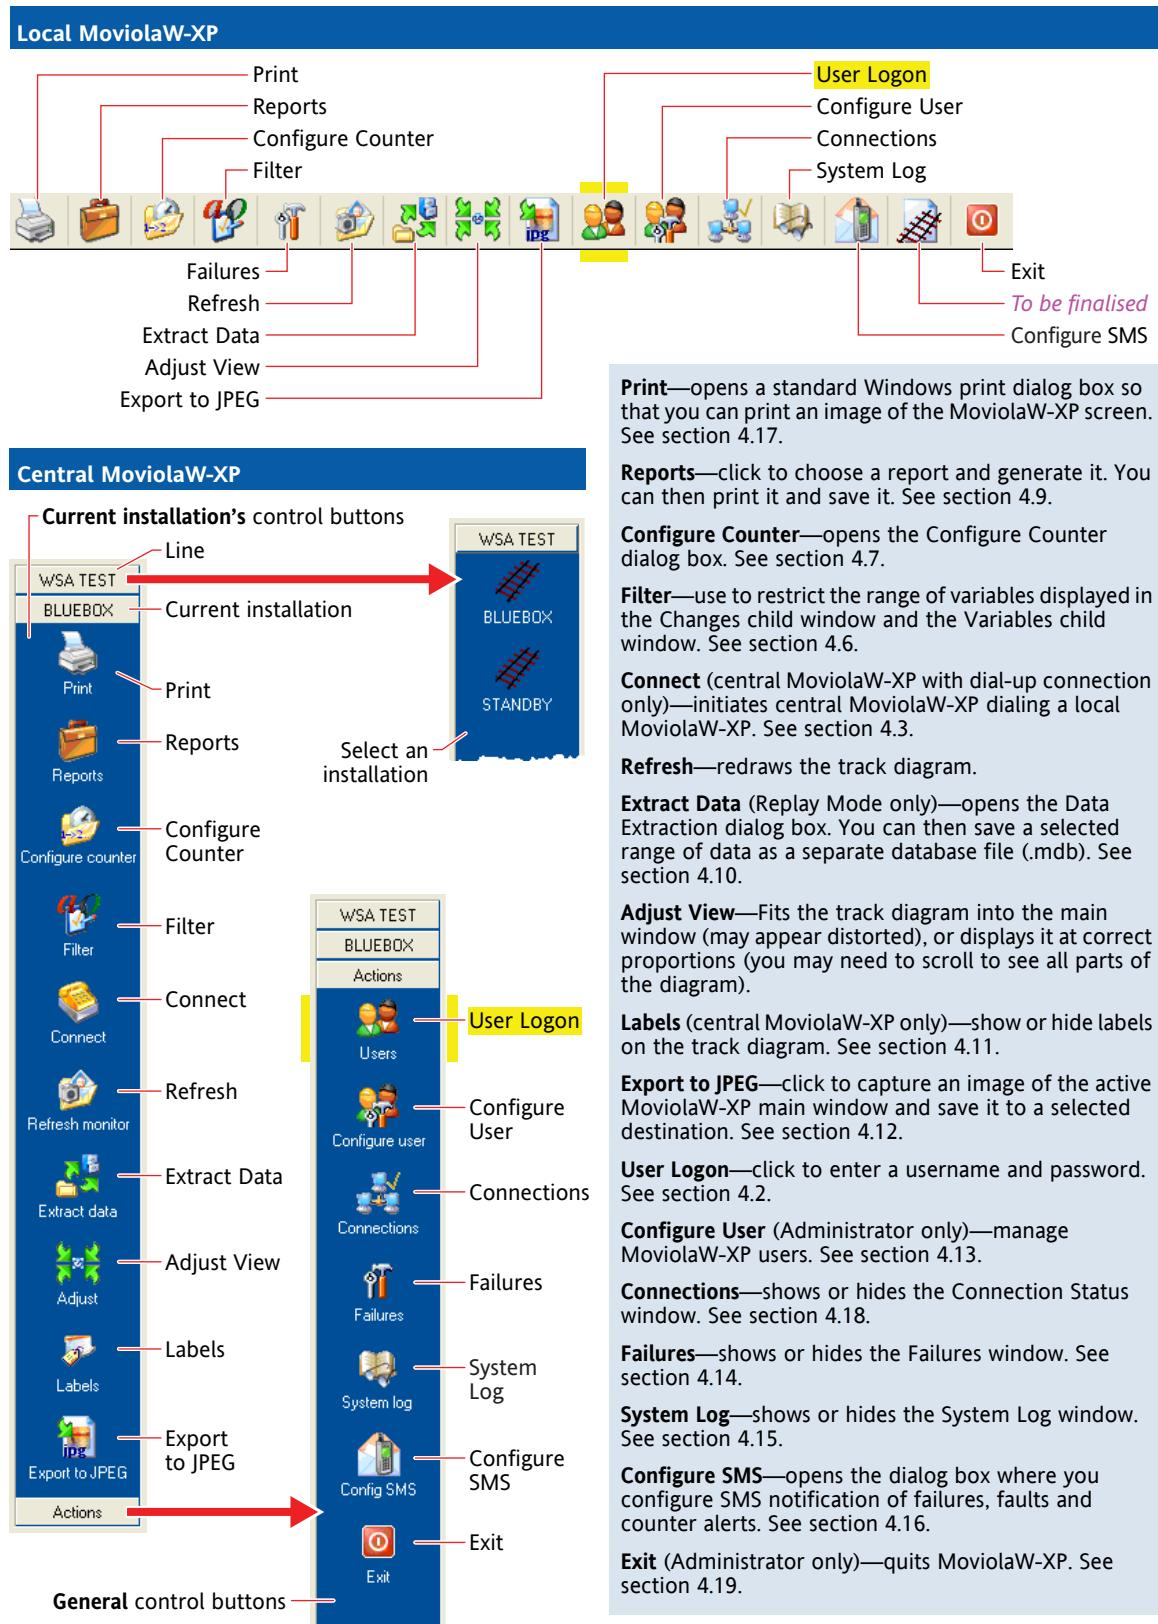

Figure 3.3 Control Bars and buttons
- Click the User Logon button (highlighted in yellow in figure 3.3).